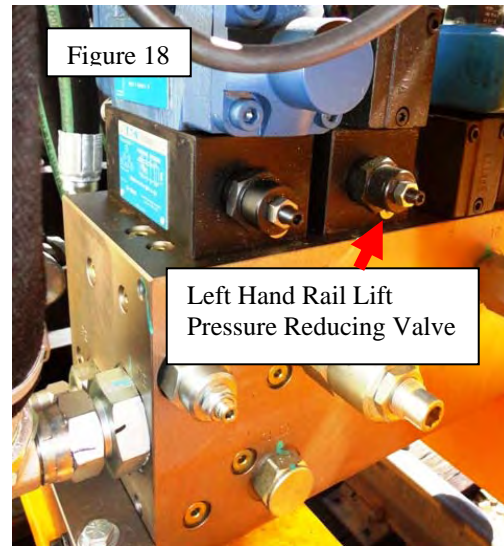

Figure 18
If pressure is higher than 750 psi, remove protective cap (Figure 18) and loosen lock nut from pressure reducing screw. Turn the screw counterclockwise (CCW) until pressure reads 750 psi. Tighten the lock nut.
If pressure is lower than 750 psi, remove protective cap (Figure 18) and loosen lock nut from pressure reducing screw. Turn the screw clockwise (CW) until pressure reads 750 psi. Tighten lock the nut.